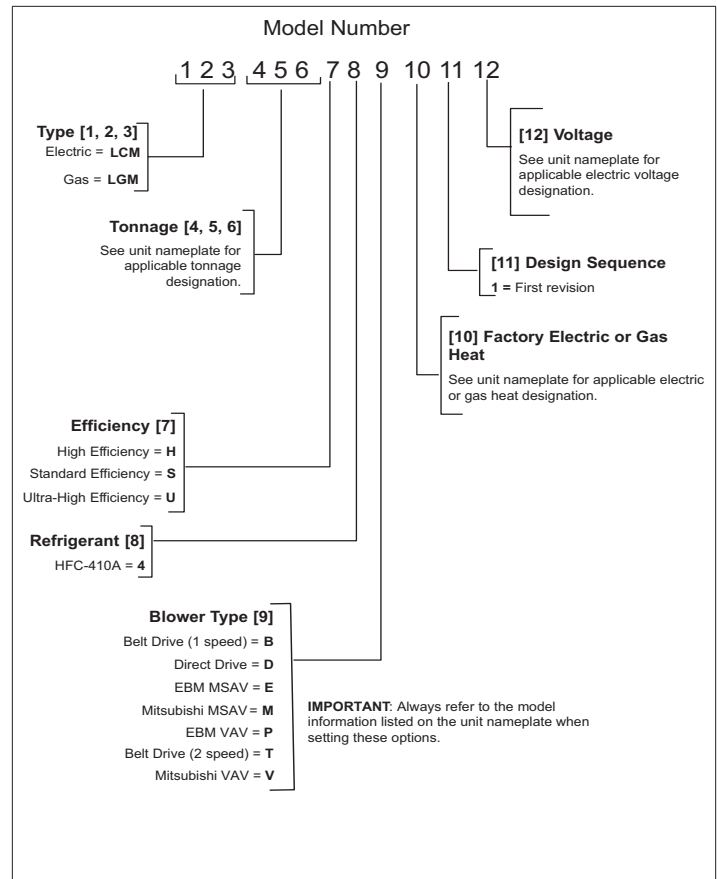

Figure 37. Model Number
- Model Number (see “Figure 37. Model Number”) and serial number. Model , serial and catalog numbers are located on the RTU nameplate.